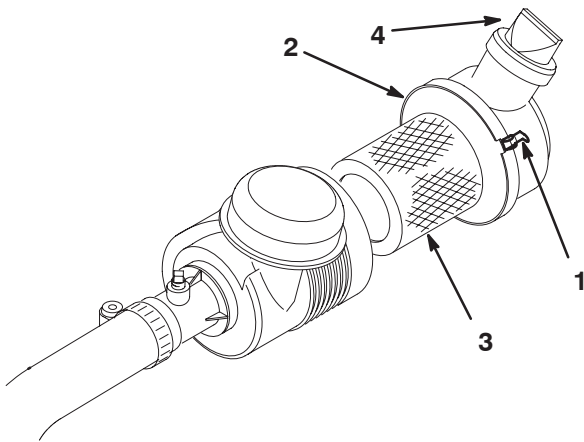

Figure 44
1. Release the latches securing the air cleaner cover to the air cleaner body (Fig. 44).
6. Reinstall the cover and secure the latches (Fig. 44).